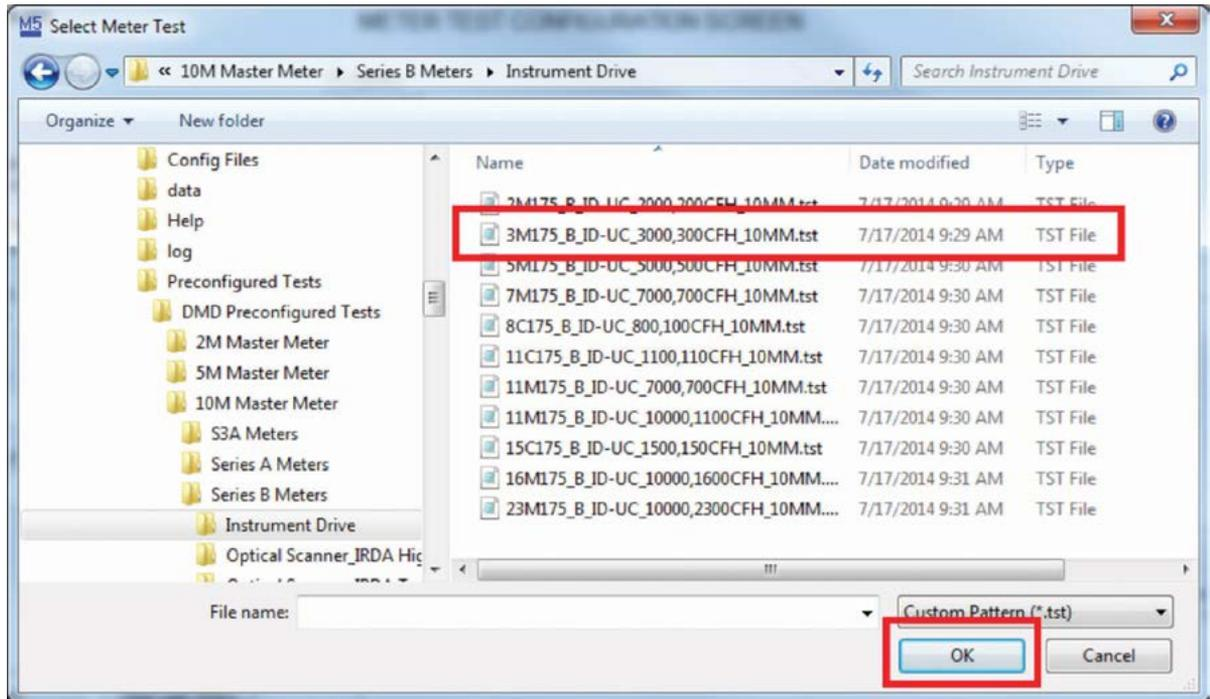

Figure 99: Select Meter Size
- **Instrument Drive:** Preconfigured test for a meter with Counter with Instrument Drive (CD) to be tested using the Instrument Drive Pulser. The test will run at 100% of meter capacity and 10% of meter capacity with one repeat at each point.
- **Optical Scanner_IRDA Temperature Corrected:** Preconfigured test for a meter with a Temperature Compensated Counter (TC) to be tested using an optical scanner. The test will run at 100% of meter capacity and 10% of meter capacity with one repeat at each point.
- Upon selecting the Test Control Mode, the next selection regards meter sizes. Select the appropriate meter size based on the meter to be tested. Click "OK" when ready. Refer to **Figure 99**.